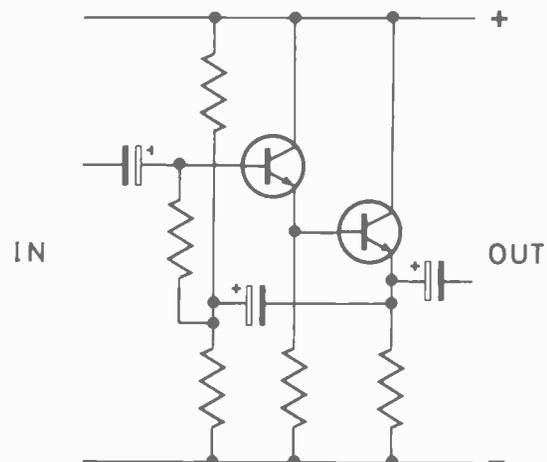

Fig. 12. A two-stage bootstrapped circuit with a very high input resistance of several megohms.
Positive feedback is the process of taking some of the signal at the output of an amplifier and connecting it back, in phase, to the input. How much effect this has depends on how much of the signal is fed back. Small amounts of positive feedback (as we call this) can increase the gain of an amplifier and also increase the input impedance. A simple example of this use of positive feedback is the circuit of Fig. 11. This is an emitter-follower (see earlier parts) with a capacitor feeding signals back from the emitter to the base. Because the voltage gain of an emitter-follower is always less than unity this has no effect on the gain of the whole circuit, but it does make the input impedance for signals very much higher than that of the unaltered emitter follower. This use of positive feedback is called **bootstrapping**. The name comes from the (US) inventor of the circuit who remarked that "*it looks a bit like pulling yourself up with your own bootstraps.*" A two-stage bootstrap circuit with a very high input resistance is shown in Fig. 12.